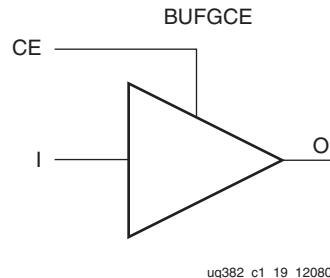

Figure 1-27: BUFGCE Primitive
The BUFGCE primitive creates an enabled clock buffer using the BUFGMUX select mechanism (see Figure 1-27). BUFGCE is a global clock buffer with a single gated input. Its O output is 0 when clock enable (CE) is Low (inactive). When clock enable (CE) is High, the I input is transferred to the O output. The BUFGCE truth table is shown in Table 1-15.